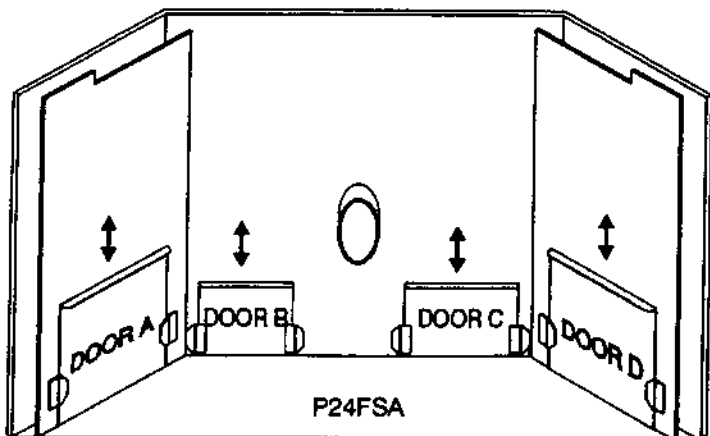

Figure 13A
B. Interior Chambers—Four (4) cover plates in the firebox can be removed for periodic cleaning (see figures 13A & 13B). All four doors allow access to the chamber surrounding the firebox.
is accessed by removing the stove's left side panel (rear sheet must come off first). The combustion blower is accessed through door C (see figure 13A). The P24I convection and combustion blowers are accessed by pulling stove out of fireplace. The convection blower is on the left (facing stove), combustion blower on the right.